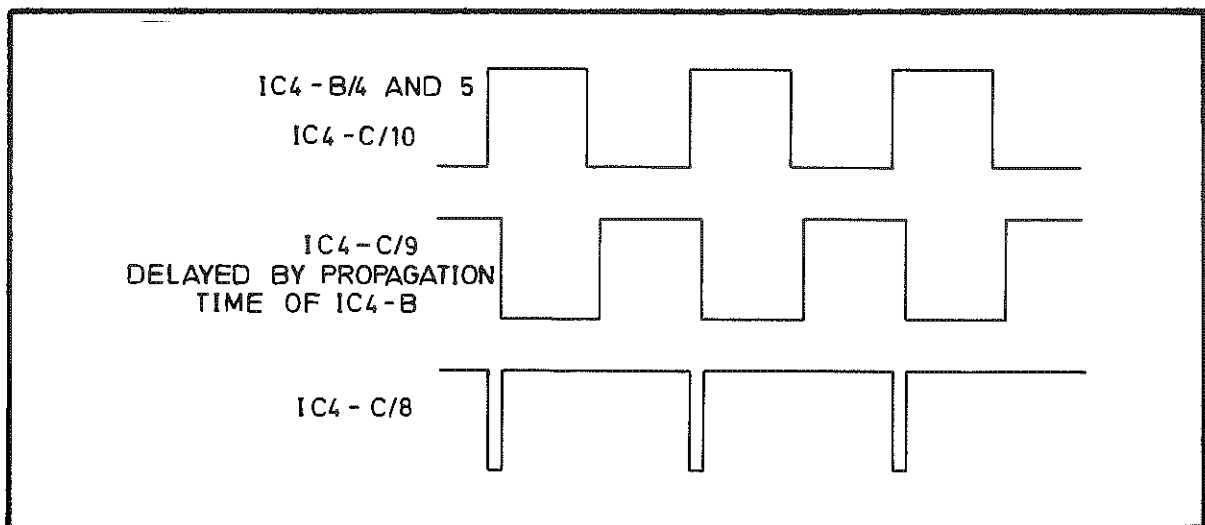

Fig 6.14 Pulse Generator Waveforms
- 129 Two antiphase waveforms derived from the external reference signal enter the system at SK16 pins 6 and 9. The waveform from pin 9 is converted from ECL to TTL levels in Q1 and squared in IC4d before being applied to the pulse generator, IC4b and IC4c. The operation of this circuit is illustrated in Fig 6.14.